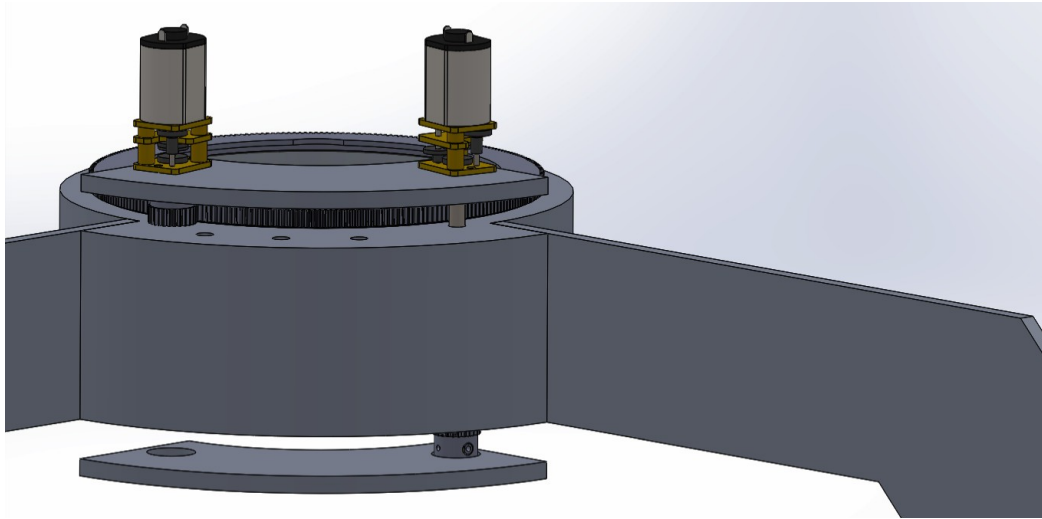
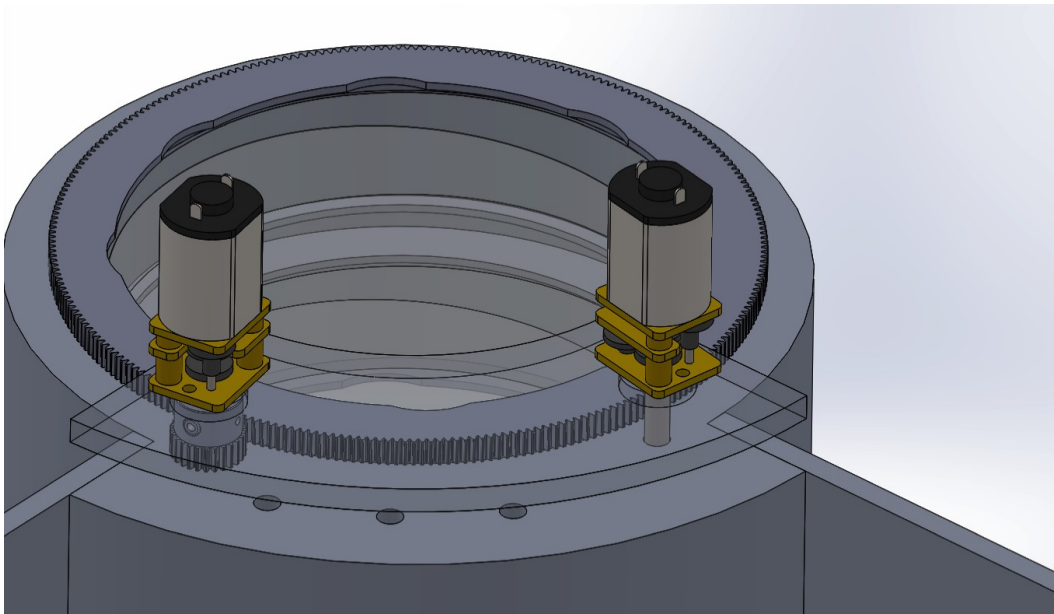

Figure 8 ADC with motor shaft encoder.
Figure 9 Encoder feedback on back shaft of motors.
3. The motors can be equipped with simple incremental encoders. A simple encoder with 12 counts per revolution, combined with the motor reduction of 100:1 (possibly much higher) and the 10:1 gives 12,000 counts per revolution. A single switch on the OD of the prism is used to indicate the starting point, Figure 8 Figure 9 There will be some backlash as the encoder is on the motor and there will be backlash in the gear train.